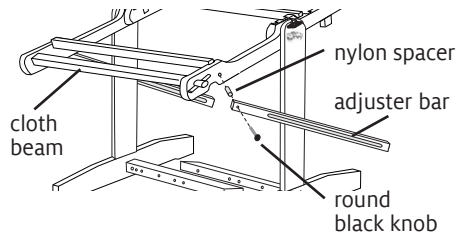

FIGURE 6: ATTACH ADJUSTER BARS TO THE LOOM
- Push a 2" round black knob through the hole in the adjuster bar (Figure 6).
- Push a 2-1/2" round black knob through the hole in the adjuster bar (Figure 6).